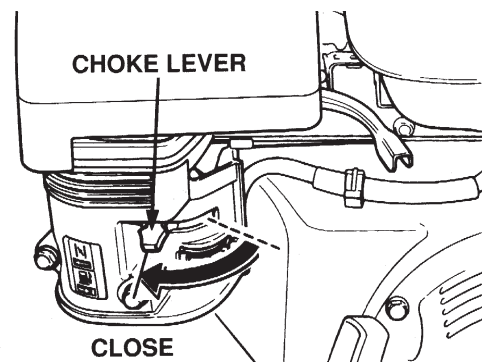

Figure 22. Choke Lever (Closed Position)
6. If operating the SP2S13H20A in **cold weather conditions**, place the **Choke Lever** (Figure 22) in the **CLOSED** position.
- If the engine has started, slowly return the choke lever (Figure 22) to the **CLOSED** position. If the engine has not started repeat steps 1 through 8.